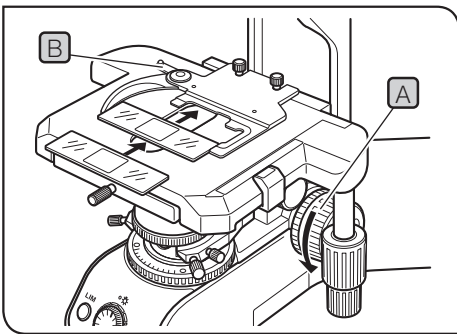

Fig.24
**1** Placing the specimen (Figs.24 & 25-A & 25-B)
Microscopy with Double-Slide Holder (Fig.24)